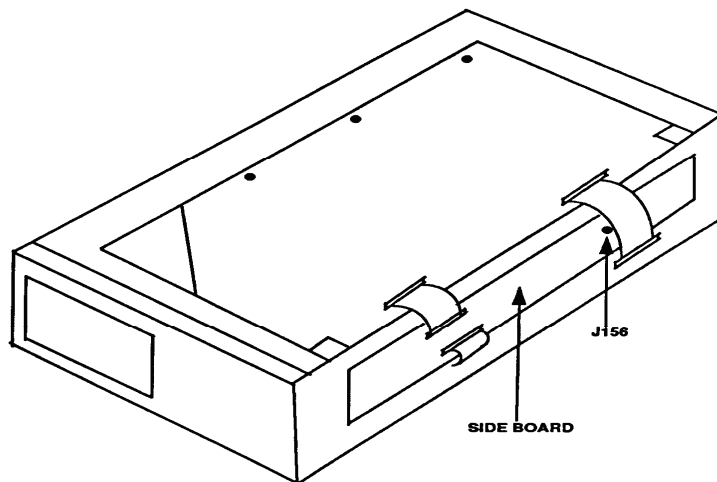

Figure 1. Test instrument jumper location (cabinet removed).
- a. Press **POWER-ON-OFF** pushbutton to **OFF** (out) and remove the cabinet from test instrument. Remove jumper J156 (fig. 1) from P156 on side board (located on right side of instrument near rear).
With jumper J156 (fig. 1) removed, calibration constants stored in TI firmware will be lost when power is applied and must be reestablished by performing this procedure completely.
q. Perform (1) through (3) below to prevent calibration constants from being lost.
(1) Press **TI POWER-ON-OFF** switch to **OFF** (out) and remove cabinet from TI.
(2) Replace jumper (J156) (fig. 1) on P156 on side board (located on right side of instrument near rear panel).
(3) Replace cabinet on TI.